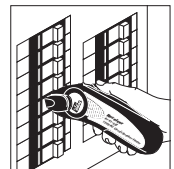

Figure 3
4. Place the flat surface of the tapered end of the receiver directly onto the circuit breaker or fuse as shown. (Figure 3) If the receiver is held at any other angle, inaccurate readings may occur.